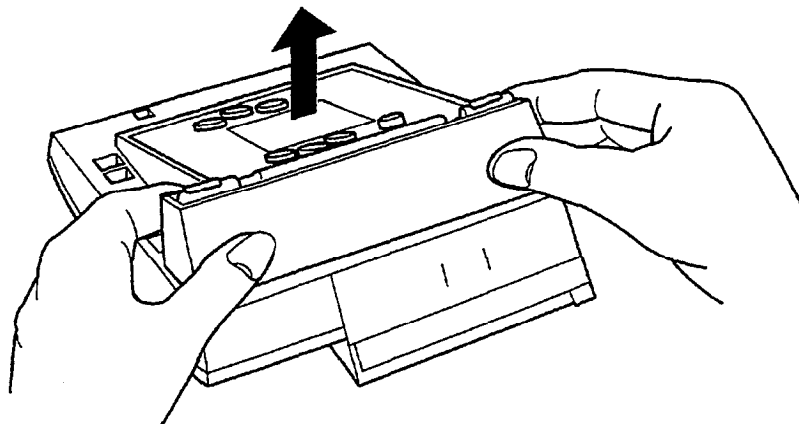

Figure 4-18 Removing the Base Unit
1. Remove the base unit by pressing the tabs on each side of the base plate and lifting upward. Refer to Figure 4-18 Removing the Base unit